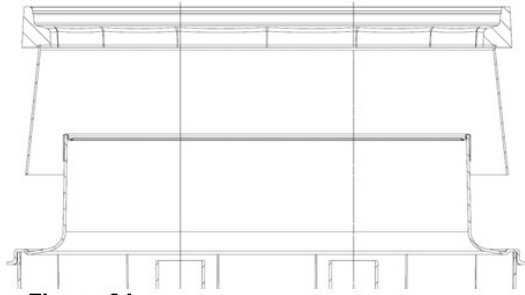

Figure 34
54. Remove spill platform from existing tank sump top hat. If present remove S-CS-SEALANT sealant between skirt and top hat. See Figure 34.